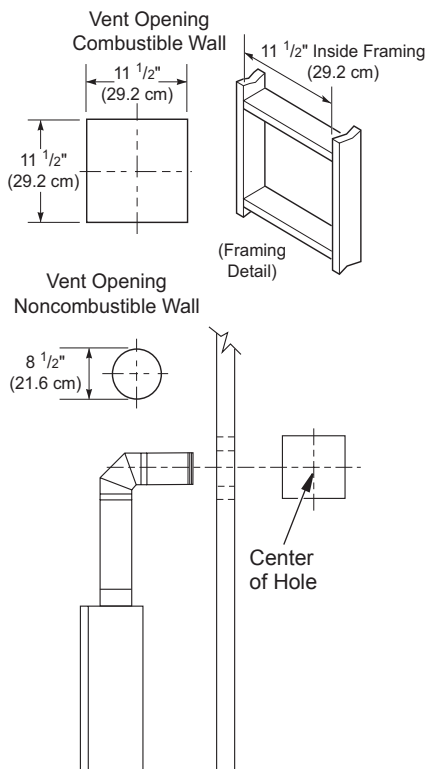
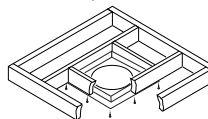

Figure 11 - Vent Opening Requirements
Figure 20 - Installing Firestop
5. Carefully determine the location where vent pipe assembly will penetrate outside wall. Center of hole should line up with center-line of horizontal vent pipe. Mark the wall for a 11 1/2" x 11 1/2" square hole. Cut and frame square hole in exterior wall where vent will be terminated (see Figure 11).
6. **Combustible Exterior Wall:** For vinyl siding, stucco or wood exteriors, a siding standoff may be installed between vent cap and exterior wall. Siding standoff prevents excessive heat from damaging siding materials. Siding material must be cut to accommodate standoff. Bolt vent cap to standoff. Apply non-hardening mastic around outside edge of standoff. Position standoff/cap assembly in center of 11 1/2" square hole and attach to exterior wall with wood screws provided (see Figure 11). Siding standoff must sit flush against exterior fascia material.
1. Cut a 10 3/4" square hole in the ceiling using locating hole as a center point. Opening should be framed to 10 3/4" x 10 3/4" inside dimensions, as shown in Figure 11 on page 11, using framing lumber the same size as the ceiling joists. If area above ceiling is an insulated ceiling or an attic space, you must use firestop thimble and special firestop included with the kit from top side to prevent insulation from contacting vent pipe (see *Thimble Installation*, page 16). If area above ceiling is a living space, install firestop below framed hole. Firestop should be installed with no less than three nails per side (see Figure 20).
3. Cut a hole in the roof using locating hole as a center point. (Cover any exposed open vent pipes before cutting hole in roof.) The 10 3/4" x 10 3/4" hole must be measured on the horizontal. Actual length may be larger depending on pitch of roof. There must be a 1" clearance from vent pipe to combustible materials. Frame opening as shown in Figure 11, page 11.
- Cut and frame ceiling joist to dimensions shown in Figure 11, page 11.
- Refit assembly into opening and attach to framing with 8 Phillips screws provided (see Figure 20, page 15).